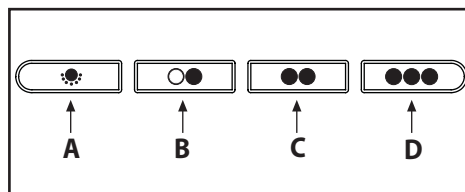

Fig.12
• **Mechanical controls (Fig.12):** the symbols are as follows: